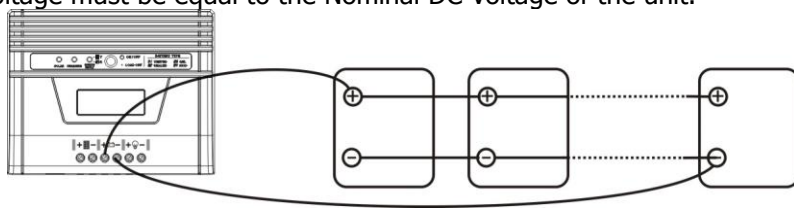

Fig. 6
2) Multiple batteries in parallel connection (Refer to Fig. 6): Each battery's voltage must be equal to the Nominal DC Voltage of the unit.